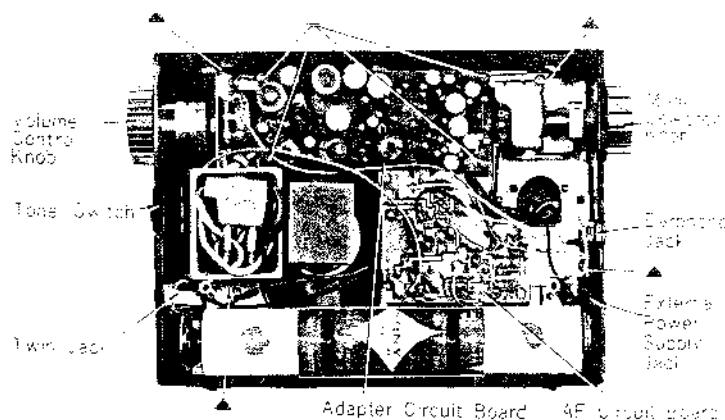

Fig. 2.
- (1) Remove the two Back Cover Holding Screws ( $\ominus$  RK 2.6X10) and open the Back Cover.
- (2) Take out all the Batteries.
- (3) Remove the Battery Cylinder by unscrewing the two screws.
- (4) Remove the Mode Selector Knob and the Volume Control Knob by pulling straight out.
- (5) Remove the Earphone Jack, the Tone Switch, the Twin Jack and the External Power Supply Jack by pulling straight out.
- (6) Remove the four Chassis Holding Screws marked with  $\blacktriangle$  in Fig. 2.
- (7) Take out the Chassis from the Cabinet gently.
- (1) Remove the two Back Cover Holding Screws and open the Back Cover.
- (2) Remove the four Adapter Circuit Board Holding Screws marked with  $\blacktriangle$  in Fig. 2.
- (3) Remove the Adapter Circuit Board from the Chassis taking care not to touch the board.